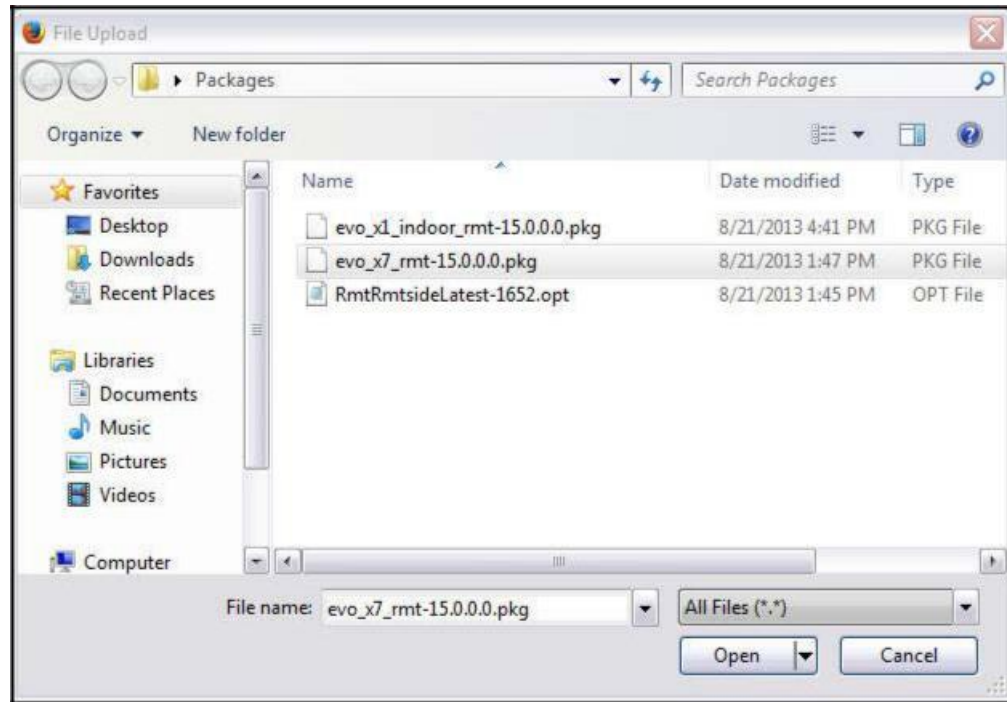

Figure 31. Selecting Package File
3. Navigate to the appropriate model-specific packages on the local PC. They are located in the **Images** folder created during the unzip operation. See Figure 31.